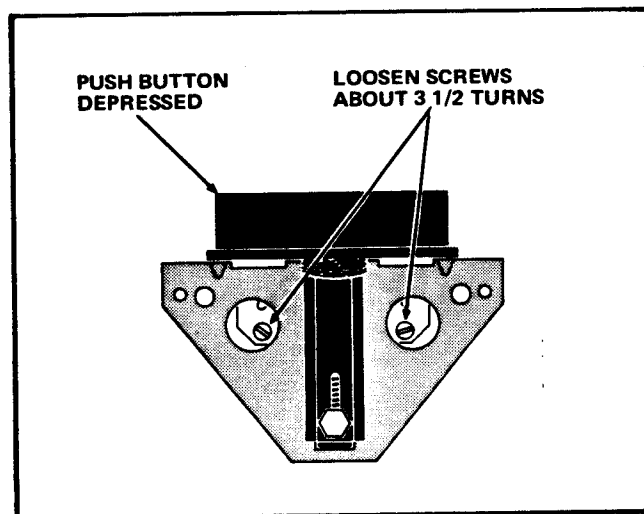

FIGURE 20
7. Depress and hold the Push Button depressed to expose the two Screws in the Extension Assembly. Loosen the screws about 3 1/2 turns. Do not remove the Screws. The Screws retain the position of the Cable as it passes over the Cable Guides on the Extension Assembly. See Figure 20.
1. Depress and hold the Push Button depressed to expose the two Screws in the Extension Assembly. Loosen the screws about 3 1/2 turns. Do not remove the Screws. The Screws retain the position of the Cable as it passes over the Cable Guides on the Extension Assembly. See Figure 20.